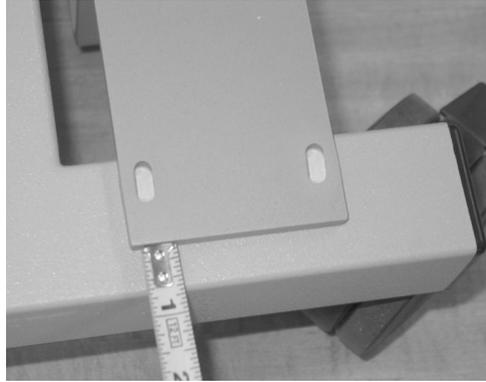

Figure 3.21
- Center the bracket on the two legs of the "H". The bracket should be positioned approximately $11/16$ " from the outside edge of each leg. Recheck the initial $3/4$ " dimension measurement (refer to Figure 3.21).